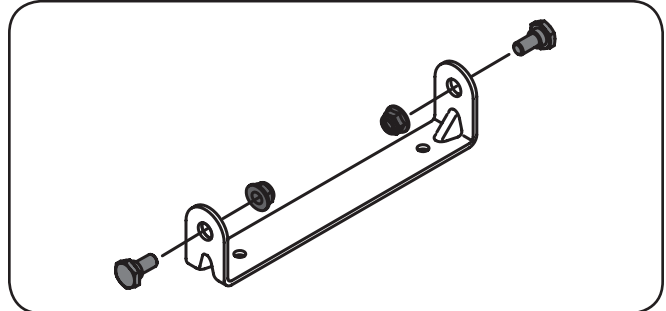

Figure 3-5
1. Remove the shoulder bolts and lock nuts from the seat mounting bracket included in your hardware pack. See Figure 3-5.